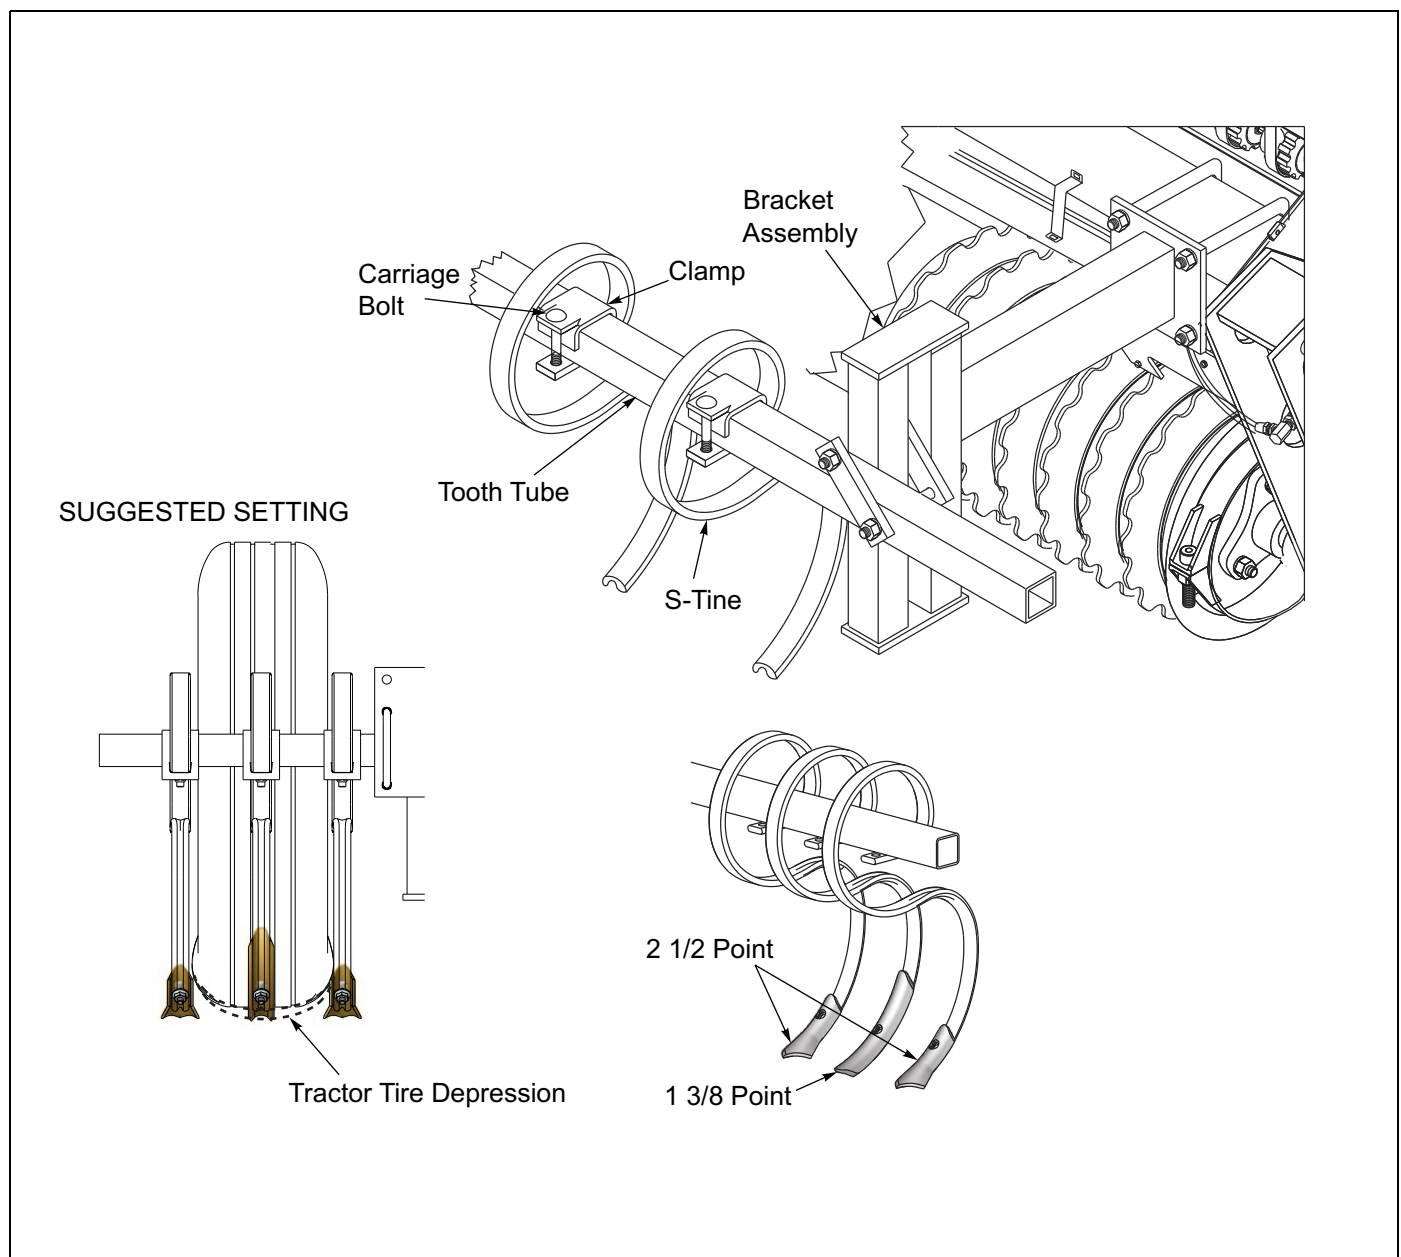

Figure 2-16: S-Tine Setup
1. Attach brackets to frame with u-bolts ($\frac{1}{2}$ " x $4\frac{1}{2}$ " centers x $7\frac{1}{2}$ " deep), lock washers, and nuts. Note that long ends of brackets are downward. Brackets should be about 53" from center of machine. See **Figure 2-16**.